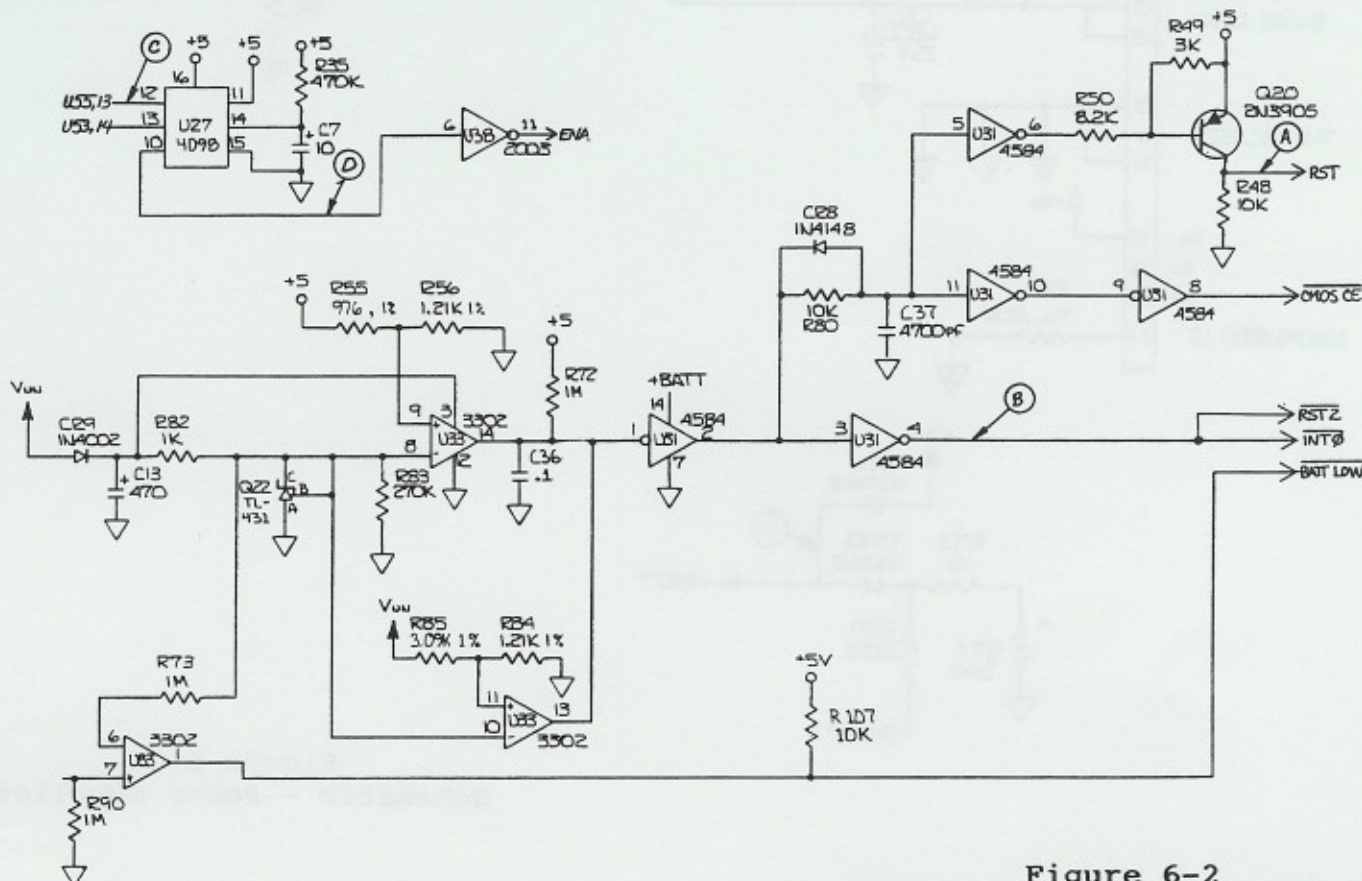

Figure 6-2
The 8031 reset signal (A) is held high, on power up, for about 100ms by R72 and C36. This insures that all power supplies have stabilized before the CPU starts accessing program memory. Glitches or power down resets are detected by either  $V_{UN}$  dropping below 9.1V (U33, pin 11) or by the regulated 5VDC dropping below 4.8V (U33, pin 9). The CPU is given advance notice of an imminent power down on INTO line (B). The watchdog timer, U27 B, must be triggered continuously by the CPU (C). (Once every 500ms minimum.). If this oneshot times out (D), all outputs are disabled. See Figures 6-2 and 6-3.